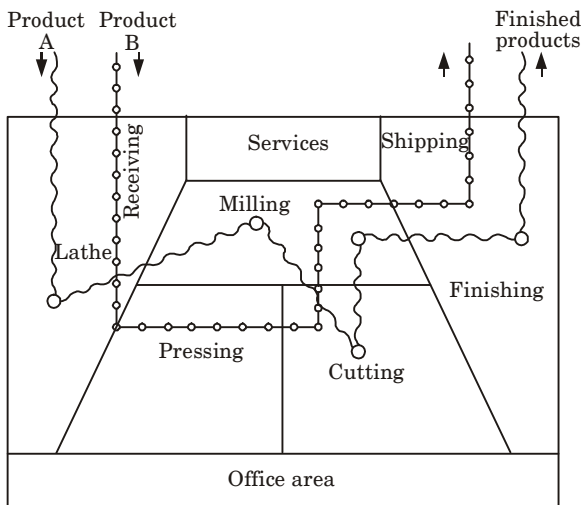

Fig. 1.18.2. Process or functional layout.
7. This type is also called as an analytical layout as shown in Fig. 1.18.2.